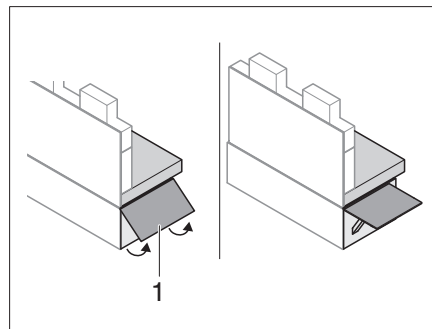

Fig. 141 Folding out bench seat extension
- Fold up bench seat extension (Fig. 141,1).
- Slide in the release button and fold in the bench seat extension (Fig. 141,1).